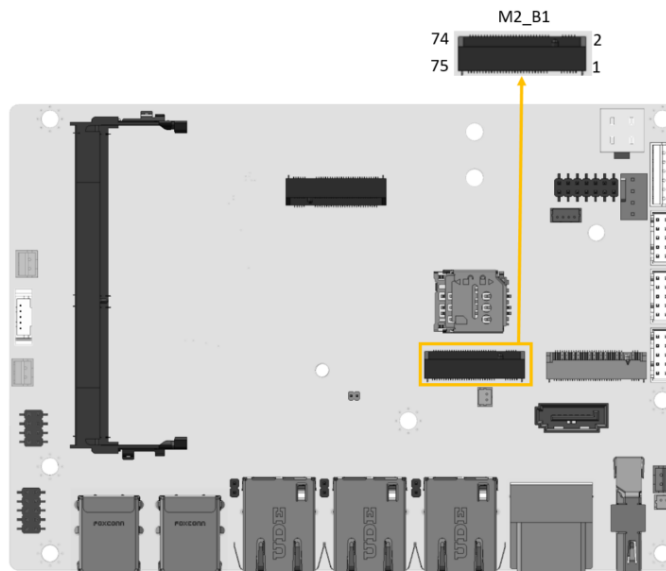

Figure 4-8: M.2 B-key Slot Location
- CN Location:** See **Figure 4-8**